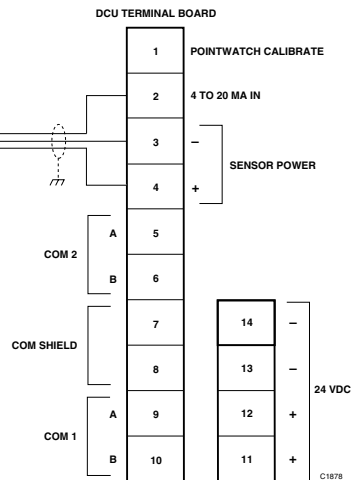

Figure 3-57—Sensor Separation Kits
This assembly can be separated from the DCUEX by up to 1000 feet using three conductor 18 AWG shielded cable. (Regardless of separation distance, operating voltage at the transmitter must be at least 18 vdc for proper device operation.) (See Figure 3-57.)
4. Use a three conductor 18 AWG shielded cable to connect P1 on the transmitter board to terminals 2, 3 and 4 on the DCU terminal board (See Figure 3-57). Connect the shield to the ground terminal in the DCUEX junction box.